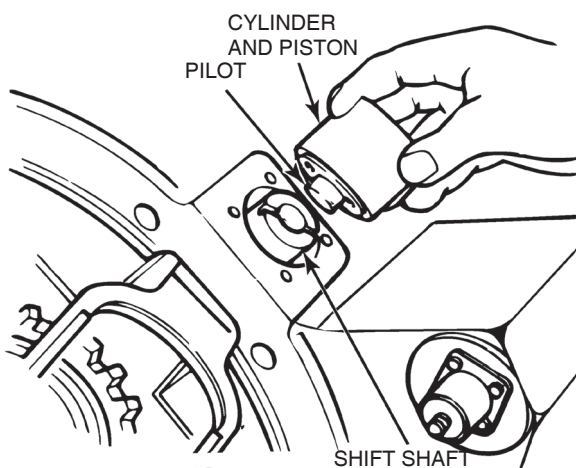

Figure 6.29
10. Install the cylinder into the housing bore. Verify that the pilot journal on the piston is against its bore on the shift shaft. Figure 6.29.